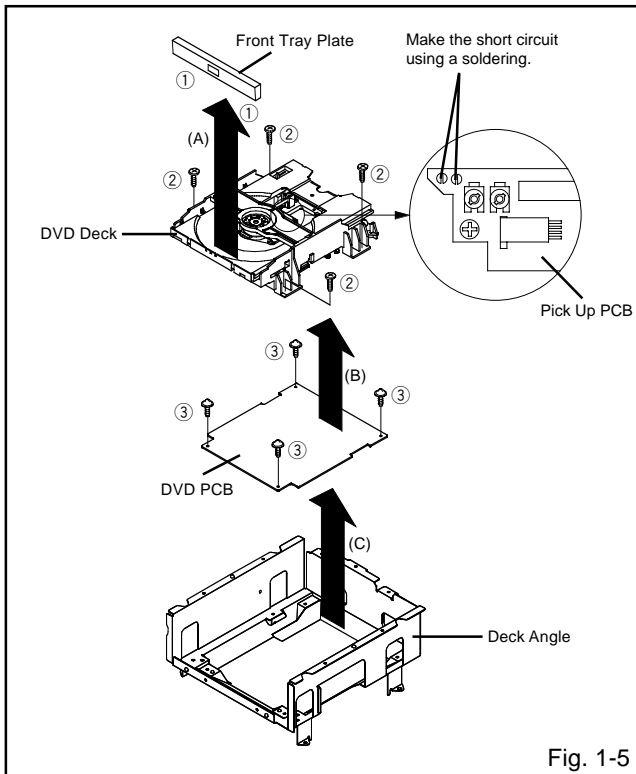

Fig. 1-5
1-5: DVD PCB/DVD DECK (Refer to Fig. 1-5)
1. Make the short circuit on the position as shown **Fig. 1-5** using a soldering. If you remove the DVD Deck with no soldering, the Laser may be damaged.
2. Unlock the 2 supports ①.
3. Remove the Front Tray Plate in the direction of arrow (A).
5. Remove the 4 screws ②.
6. Remove the DVD Deck in the direction of arrow (B).
7. Remove the 4 screws ③.
8. Remove the DVD PCB in the direction of arrow (C).